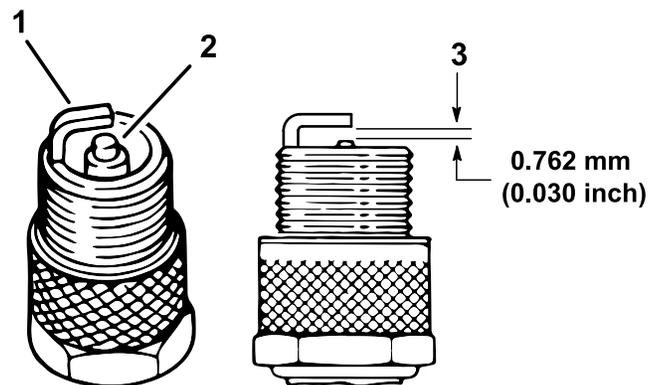

Figure 40
4. Check the condition of the side electrode, center electrode, and center electrode insulator to ensure that there is no damage (Figure 40).
5. Set the air gap between the center and side of the electrodes at 0.76 mm (0.03 inch) as shown in Figure 40.